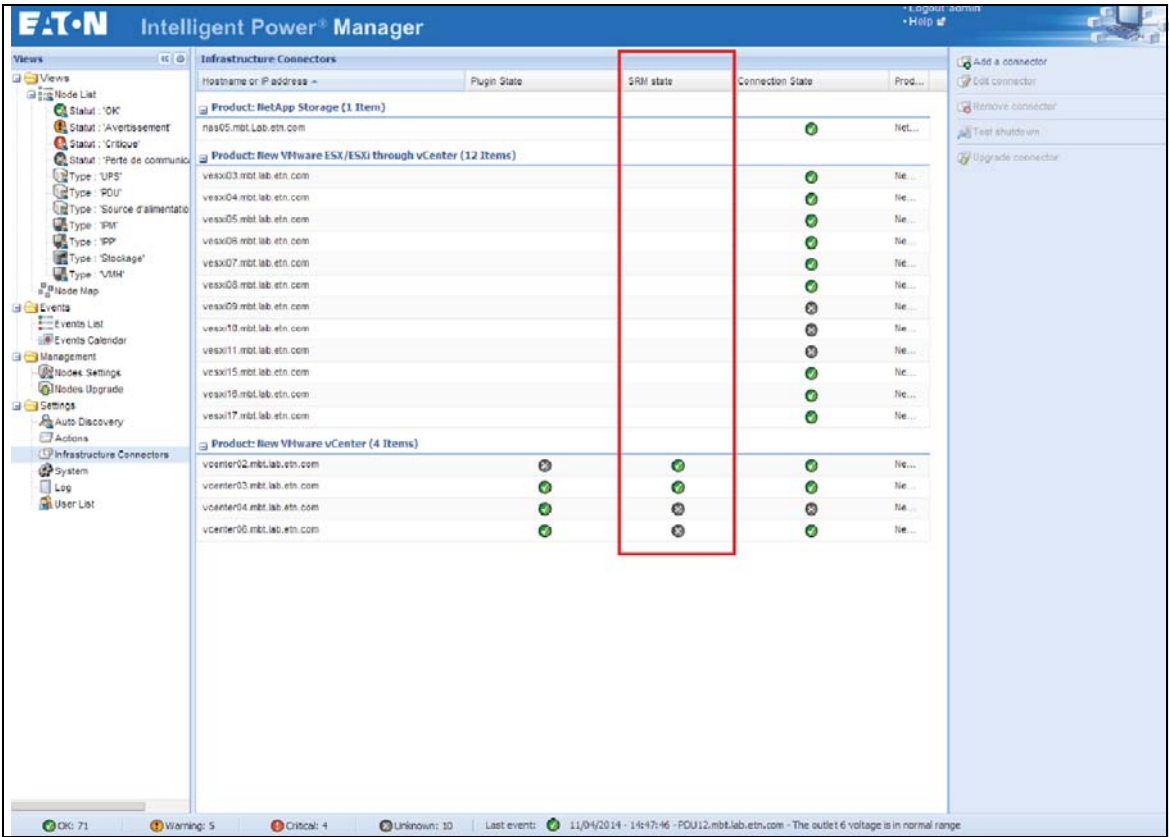

Figure 255. Infrastructure Connectors
4. You should now see a new column for SRM state in the Infrastructure Connectors panel (see Figure 255).